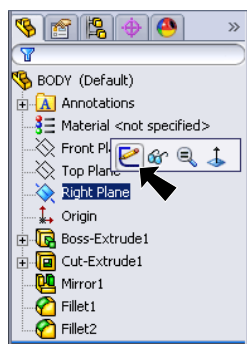

Fig. 37
Step 1. Click **Right Plane**  in the Feature Manager and click **Sketch**  from the Content toolbar, Fig. 37.